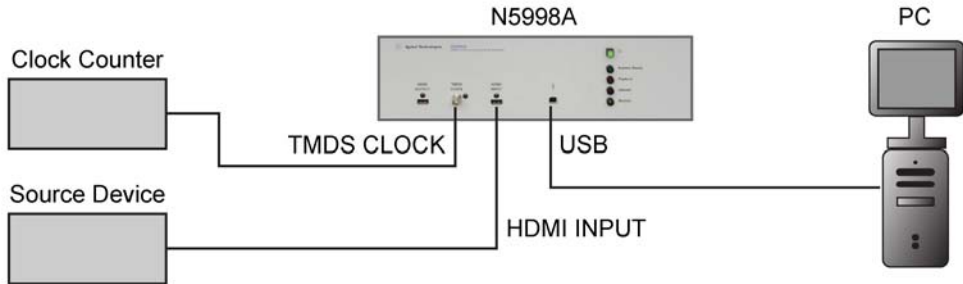

Figure 15 HDMI Capture Setup
- 1 Connect the devices as shown in Figure 15.